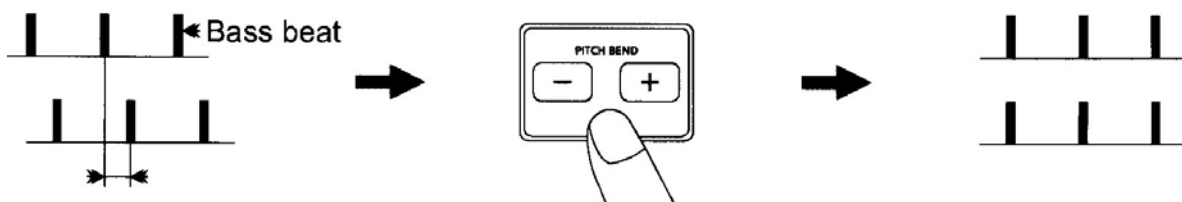

Fig. 9
- Fig. 9 shows an example of how to use the pitch bend function. In this example, both players are playing and the BPM has already been matched with the pitch sliders.